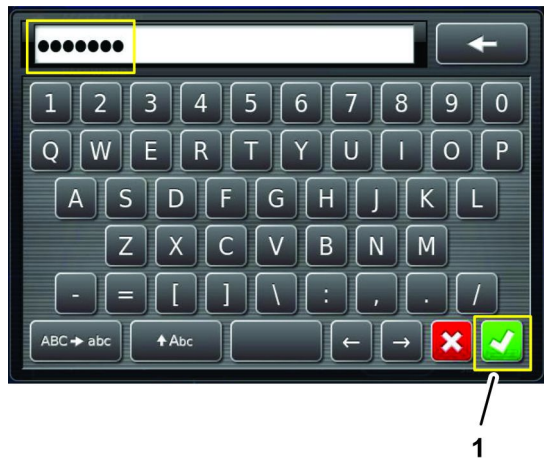

Figure 207
6. Use the on-screen keyboard to enter the password that you received in step 1, and press the confirm icon (Figure 207).